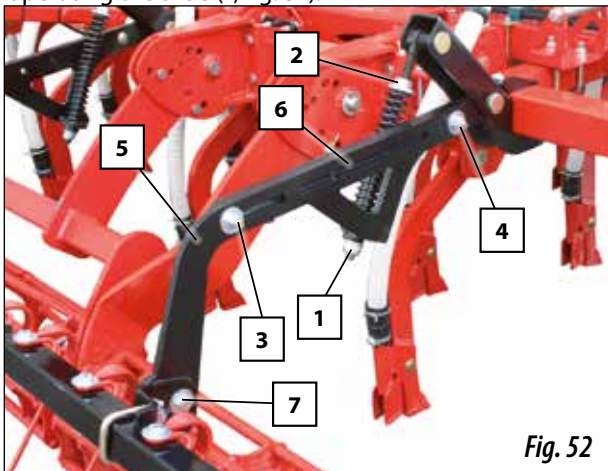

Fig. 52
by operating the lower nut (1, fig. 52).
operating the tensioner's upper nut (2, fig. 52)
by operating the slide (7, fig. 52).
- 1- Loosen the nut (3, fig. 52).
- 2- Take out both the screw and the nut (4, fig. 52).
- 3- Pull back the bar (5, fig. 52) and place both the screw and the nut in the hole (6, fig. 52) that is in the middle of the bar.